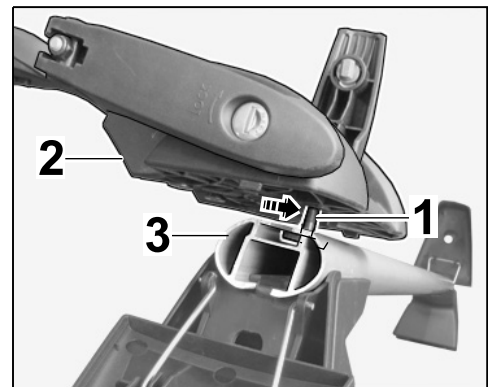

Figure 21
- 5.3 Push the T-bolt of the front wheel fork mounting into the groove on the roof transport system carrier at the front (⇒ Figure 21).